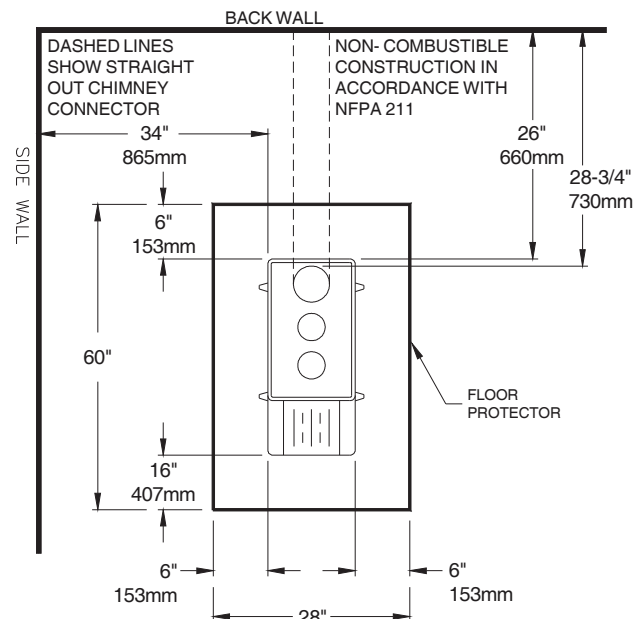

FIG. 4
2. You must have at least 18" inches clearance between any horizontal piping and the ceiling. (Fig. 4)